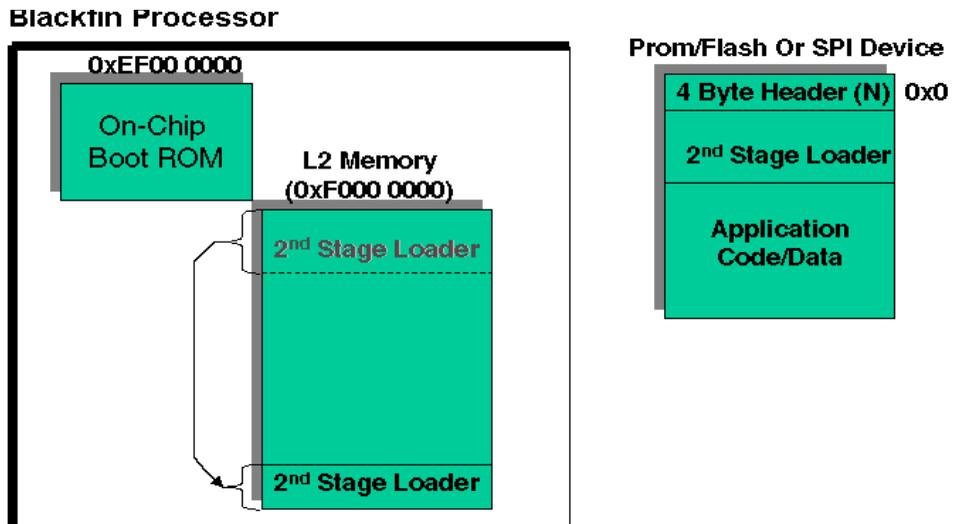

Figure 5-5. Copying Boot Kernel Loader to the Bottom of L2 Memory
- The second-stage loader copies itself to the bottom of L2 memory (Figure 5-5).